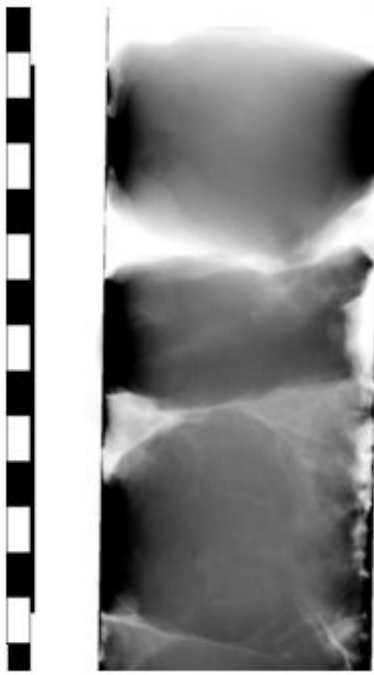

Figure 53- Example of manual processing when the core diameter is set too narrow.
1. Image edges are dark after manual processing (**Figure 53**): The value entered for core diameter is too narrow. Increase the core diameter value and reprocess the images.